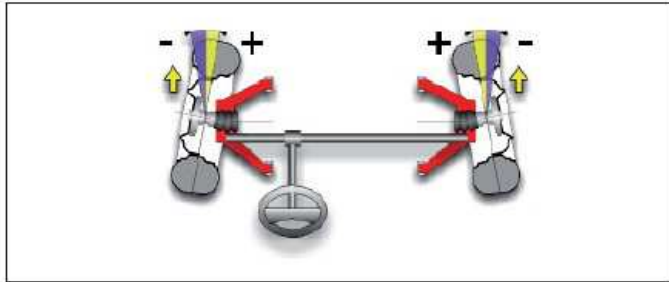

Figure 10
**1) Toe:** Angle formed by the equatorial plane of the wheel and the axis of symmetry or thrust axis of the vehicle (figs.10 and 11). The axis of symmetry of the vehicle is the imaginary line which divides the vehicle in half lengthways, while the thrust axis is the travel direction established by the rear axle. The units of measurement of toe are the degree and the millimetre.